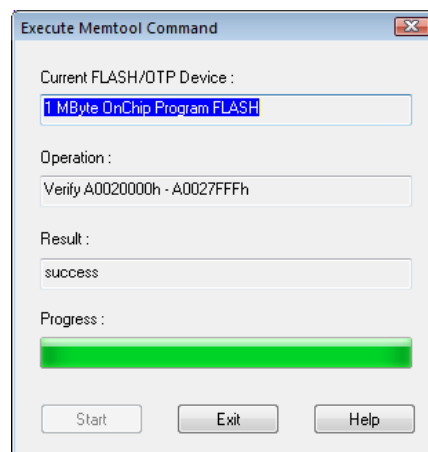

Figure 32 FLASH programming progress dialog
7. Start flashing with the **Program** button. A progress dialog appears (Figure 32). After successful programming close both dialogs.